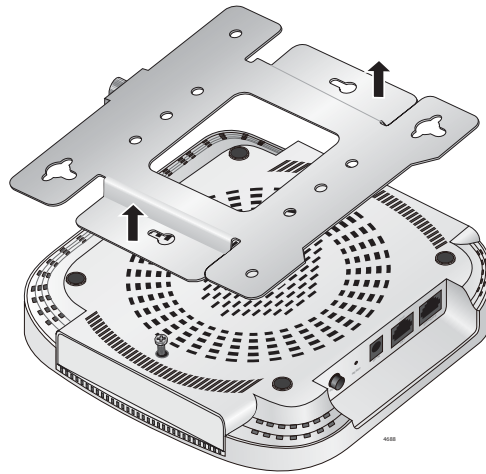

Figure 7. Remove Mounting Bracket From Access Point
4. Slide the mounting bracket forward and temporarily remove it from the access point chassis so the bracket can be independently mounted on the ceiling or wall in the next steps. Refer to Figure 7.